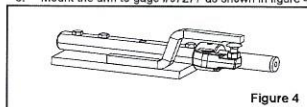

Figure 4
5. Mount the arm to gage #07277 as shown in figure 4.